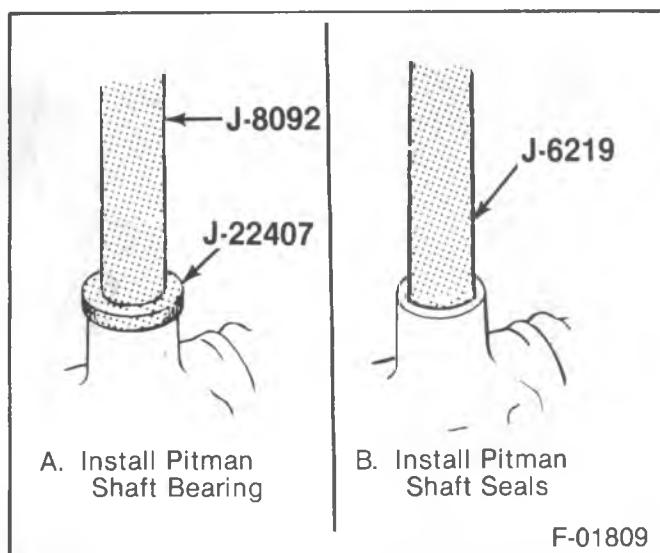

Figure 20—Installing the Pitman Shaft Bearing and Seals
3. Bearing (209) using J 22407 and J 8092.
4. Washers (207) and seals (208) using J 6219 (figure 20).